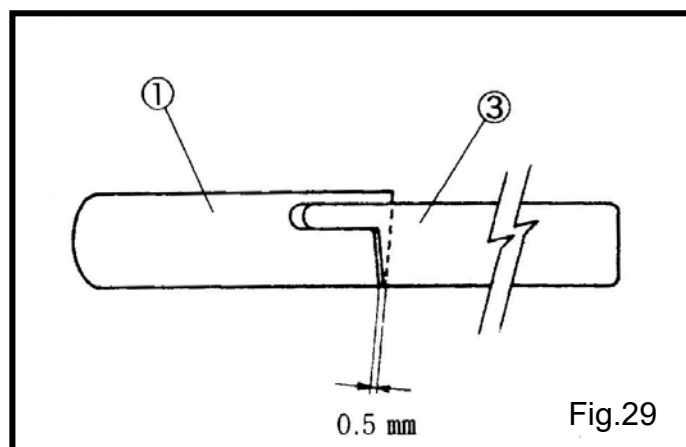

Fig.29
- (2) 當上刀③在最左邊時，上刀③和底刀①要有 0.5mm 的重疊。(Fig.29)
- (2) For the standard position of the upper knife③, engage between the upper knife③ and lower knife① to 0.5 mm when the upper knife③ is at the extreme left.(Fig.29)